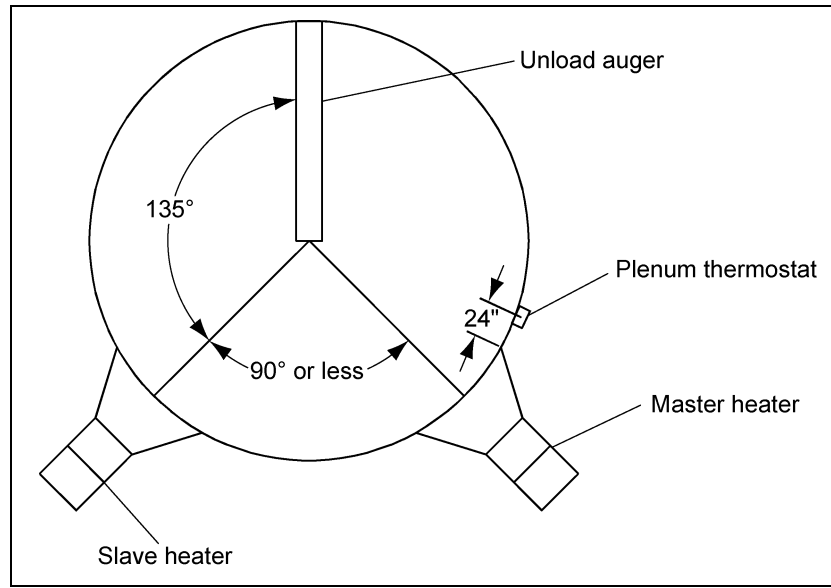

Figure 5C
IMPORTANT: When mounting two (2) heaters on a bin it is imperative that they be situated as shown in Figure 5C. Plenum thermostat must be to the right of master heater and master heater must be to the right of slave heater.